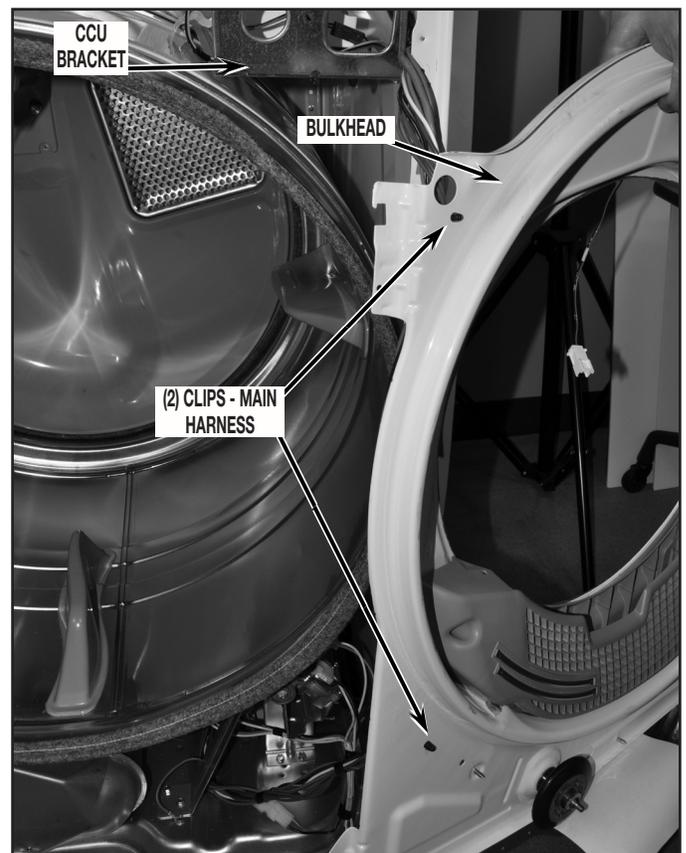

FIGURE 15
19. Swing bulkhead assembly to side and remove two (2) harness clips to disconnect harness from bulkhead. See *Figure 15*.